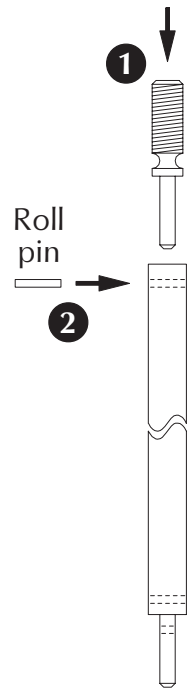

Figure 9-4
- 9.4. Assemble rod extension rod (Figure 9-4).